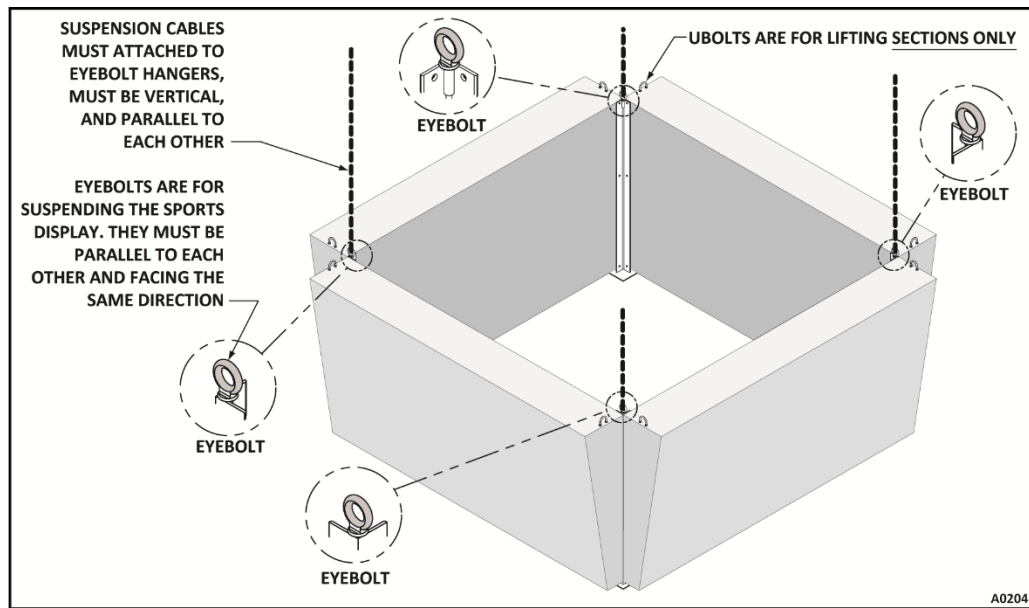

FIGURE 12 – FOUR-SIDED SCOREBOARD
- Two (2) suspension cables are required for each scoreboard or two (2) sided scoreboard.
- Four (4) suspension cables are required for a four (4) sided scoreboard. Refer to Figure 12 below.